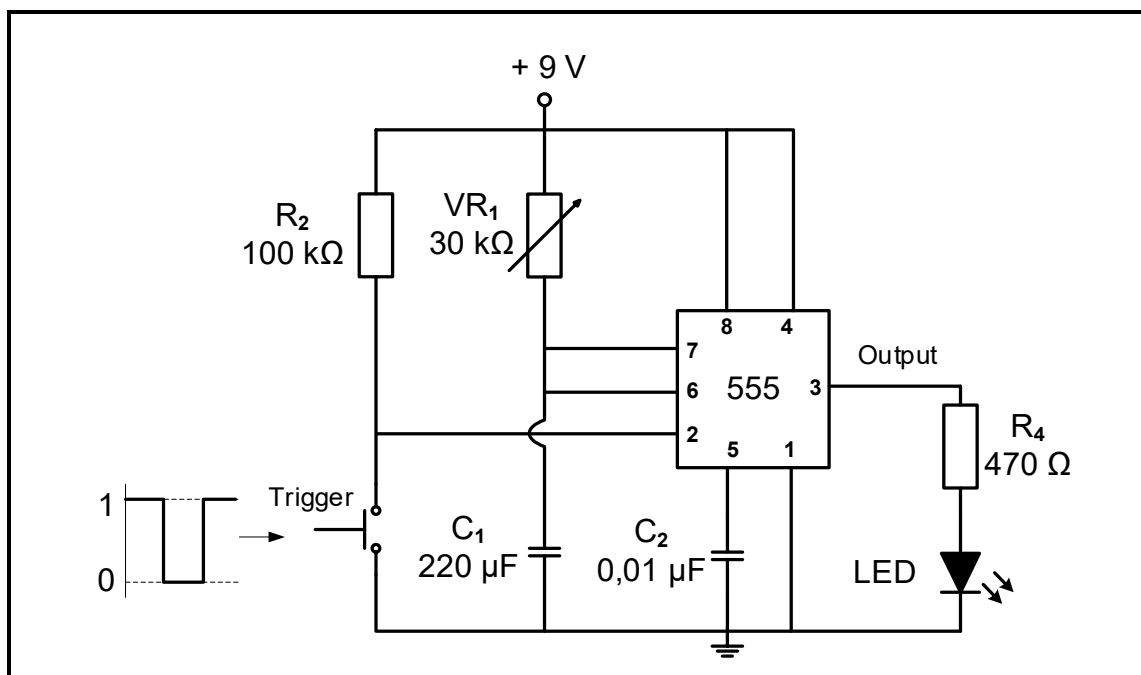

FIGURE 3.3: MONOSTABLE MULTIVIBRATOR CIRCUIT
3.3 Refer to FIGURE 3.3 below and answer the questions that follow.
- 3.3.2 Explain how the circuit in FIGURE 3.3 above can be improved to provide protection for pin 7 and pin 6. (2)